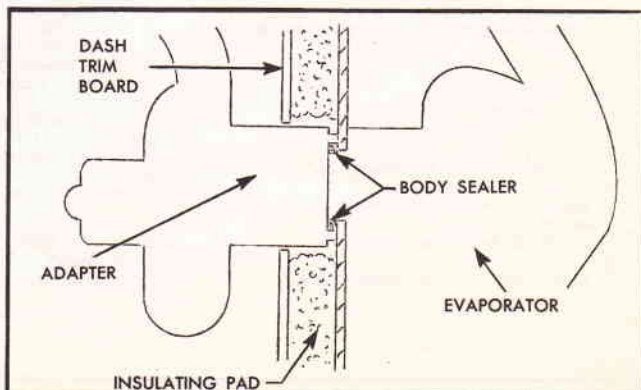

Fig. 2 Sealing Airconditioning Adapter
- b. Using body sealer, reach inside blower to dash adapter and thoroughly seal joint (or space) between adapter and dash, (See Fig. 2) Note: The dash adapter has four (4) 1/16" legs at end of bolt holes which hold adapter from dash to compensate for any rough or irregular dash surface in this area. In some cases this air gap permits enough warm air to be pulled into air flow system to cause a "freeze-up" complaint.
- d. Replace blower housing and air distributor assembly by installing five (5) screws which attach blower housing to blower to dash adapter.
- f. Replace blower motor and impeller assembly by installing five (5) screws. Perform operational check and road test car under same driving condition owner drove when he noticed insufficient cooling or evaporator freezing-up.